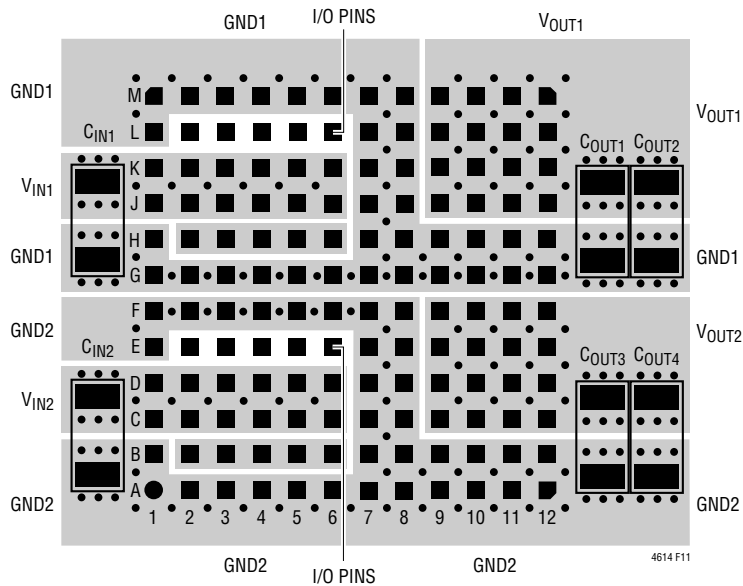

Figure 11. Recommended PCB Layout
In the above equation,  $\eta\%$  is the estimated efficiency of the power module. The bulk capacitor can be a switcher-rated aluminum electrolytic OS-CON or polymer capacitor. If a low inductance plane is used to power the device, then no input capacitance is required. The internal 4.7 $\mu$ F ceramics on each channel input are typically rated for 1A of RMS ripple current up to 85°C operation. The worst-case ripple current for the 4A maximum current is 2A or less. An additional 10 $\mu$ F or 22 $\mu$ F local ceramic capacitor can be used to supplement the internal capacitor with an additional 1A to 2A ripple current rating. See Figure 11 for recommended PCB layout.
The LTM4614 switchers are designed for low output voltage ripple on each channel. The bulk output capacitors are chosen with low enough effective series resistance (ESR) to meet the output voltage ripple and transient requirements. The output capacitors can be low ESR tantalum capacitors, low ESR polymer capacitors or ceramic capacitors. The typical output capacitance range is 66 $\mu$ F to 100 $\mu$ F. Additional output filtering may be required by the system designer if further reduction of output ripple or dynamic transient spikes is required. Table 4 shows a matrix of different output voltages and output capacitors to minimize the voltage droop and overshoot during a 2A/ $\mu$ s transient. The table optimizes total equivalent ESR and total bulk capacitance to maximize transient performance. See Figure 11 for recommended PCB layout.
- Figure 11 gives a good example of the recommended layout.